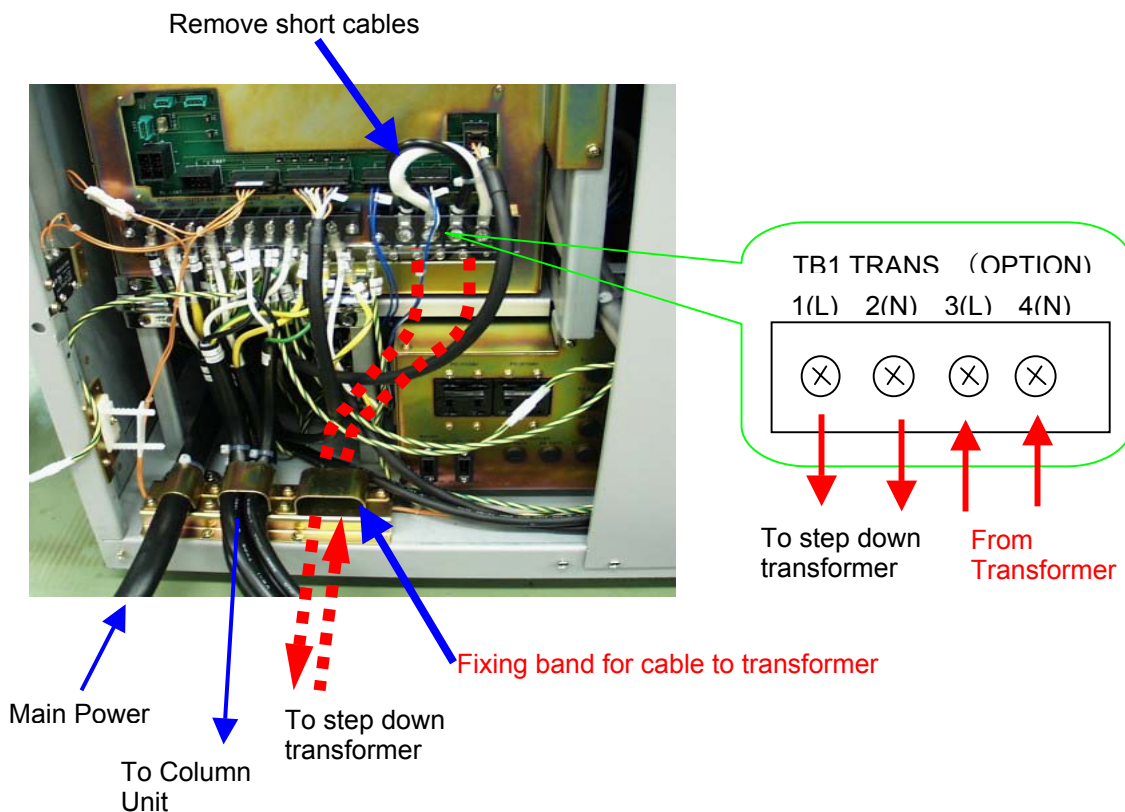

Fig 1-4 Connection of the step down transformer
Connect the cable of input of the transformer to 1(L) and 2(N) , and the cable of output of the transformer to 3(L) and 4(N) terminals of the TB1. Refer the following fig 1-4 for connection.